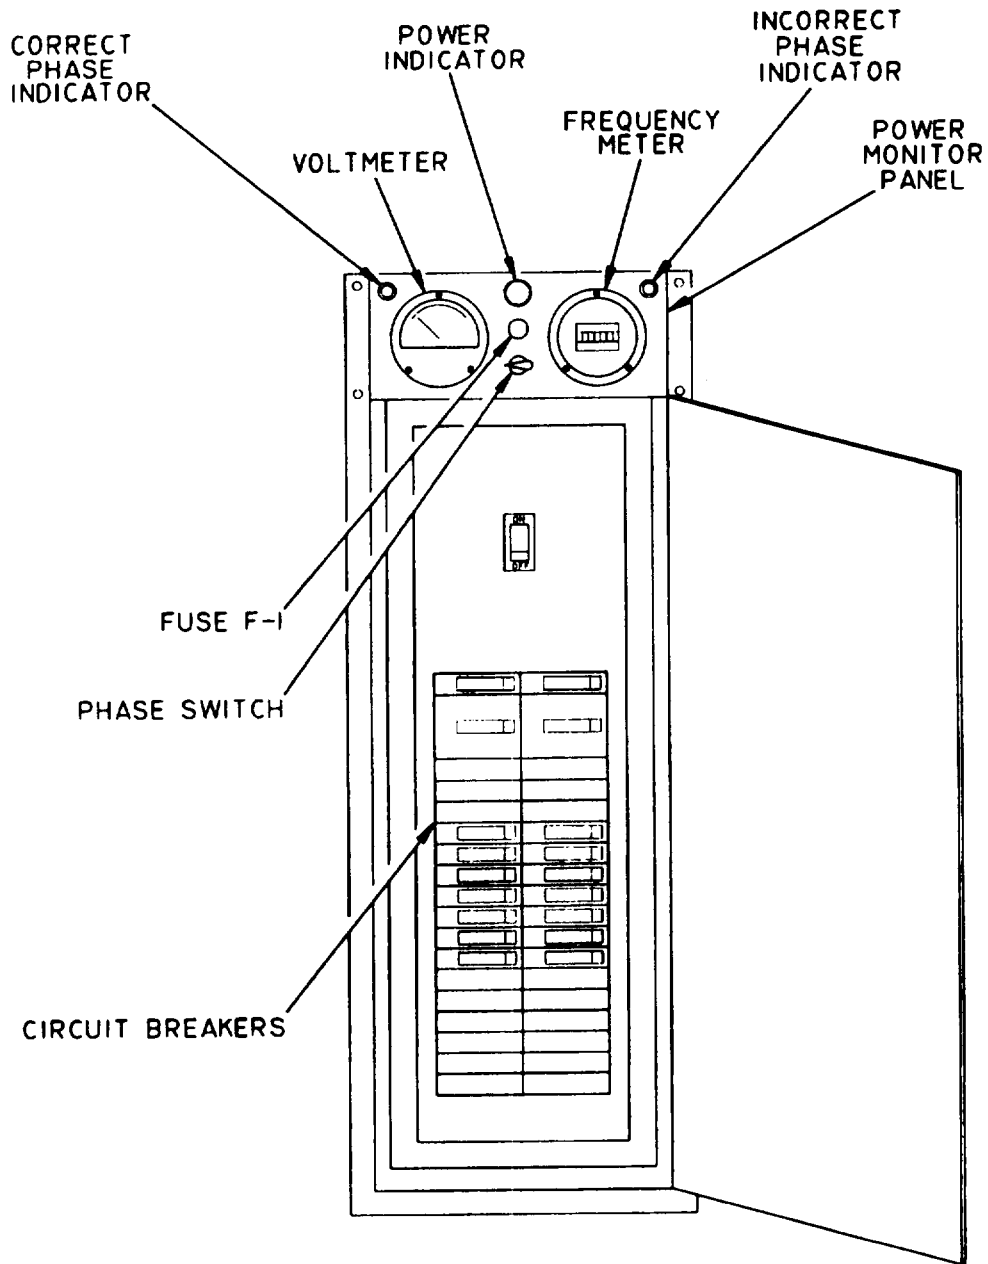

Figure F-1. AN/ASM-189 power distribution panel and power monitor panel.
a. *Power Distribution Panel* (fig. F-1).
b. Power Monitor Panel (fig. F-1)